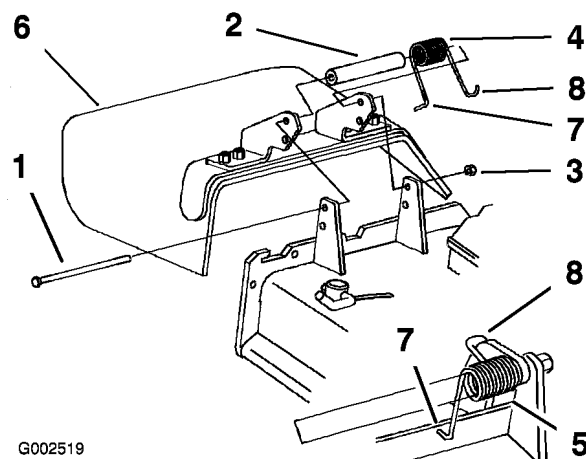

Figure 38
1. Remove the locknut, bolt, spring and spacer holding the deflector to the pivot brackets (Figure 38).
Note: Make sure the L end of the spring is installed behind the deck edge before installing the bolt as shown in Figure 38
5. Place the **J** hook end of the spring around the grass deflector (Figure 38).